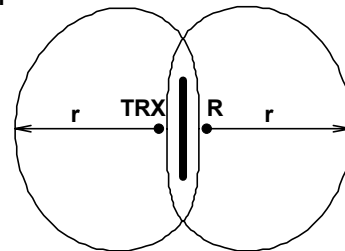

Fig.2
- Existing local object (wall, building, etc.) attenuating or reflecting wireless signals requiring repeater use to extend wireless range, as shown on fig. 2.